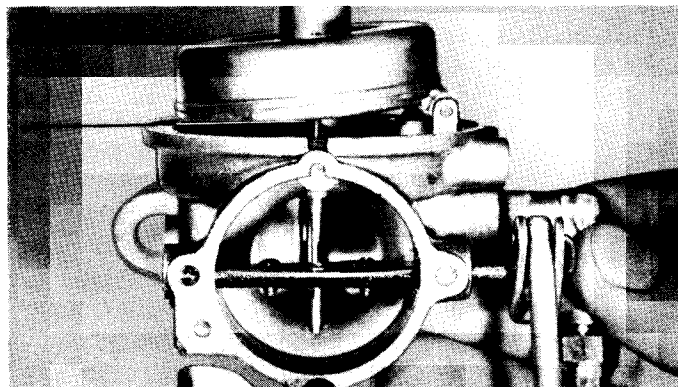

Figure 8. Adjusting Carburetor Float Level, Mark 55H
5. Set float level with carburetor casting inverted, float resting lightly against needle in its seat. There should be $3/32$ " clearance on Mark 20H (no clearance on Mark 55H) between outer surface of casting and free end of float (side opposite needle seat). Adjust by bending lip of float. (Figure 8)